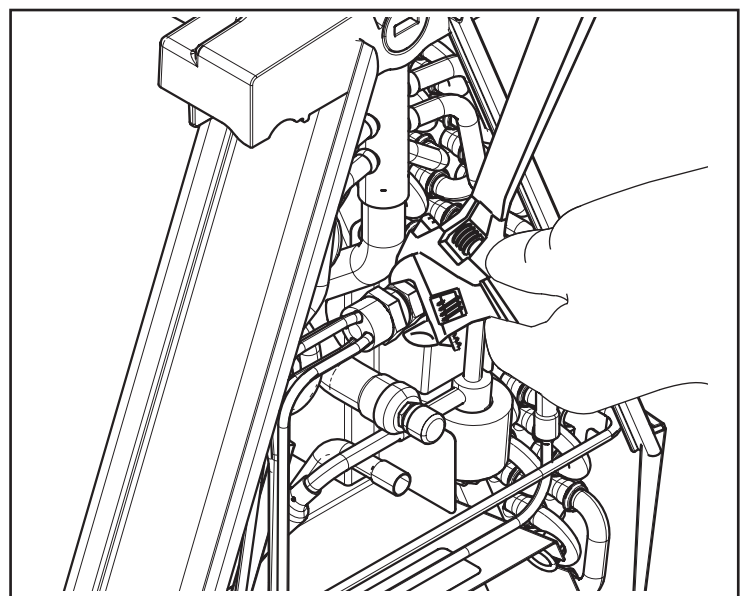

Figure 71 – Remove EEV
8. Using two adjustable wrenches, loosen and remove the EEV flow control assembly at the mechanical fitting as shown in Figure 71. Keep this assembly.